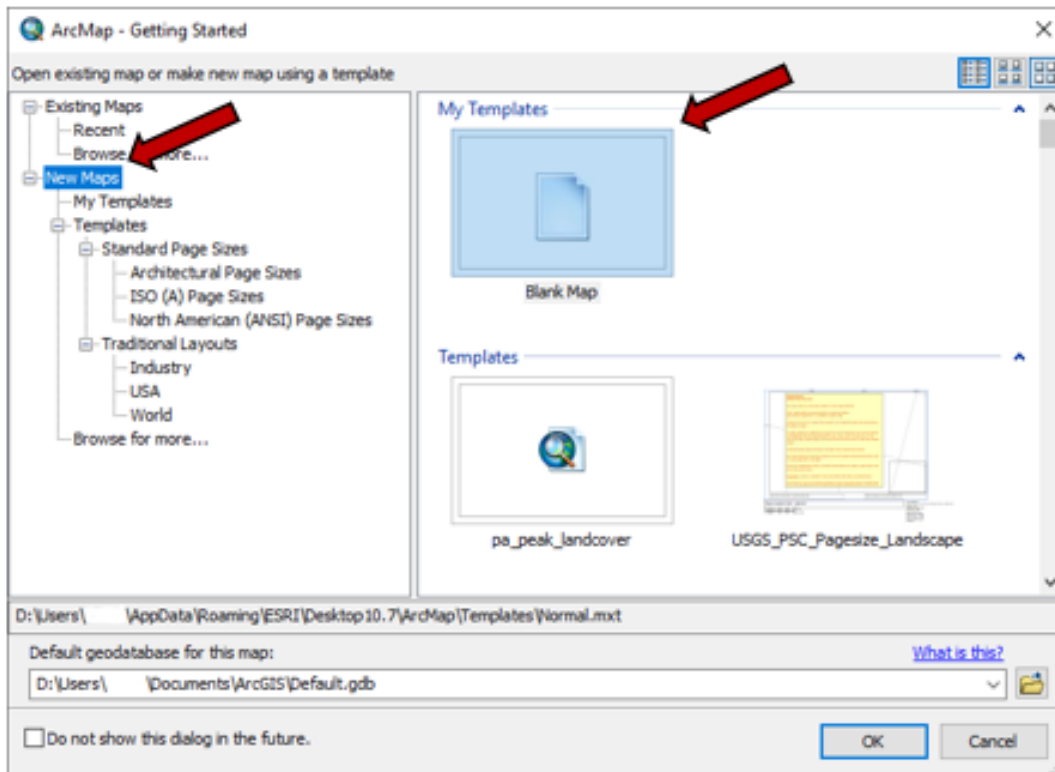

Figure 7-5. Creating a new project.
- Start ArcMap and select **New Maps** as shown in Figure 7-5: